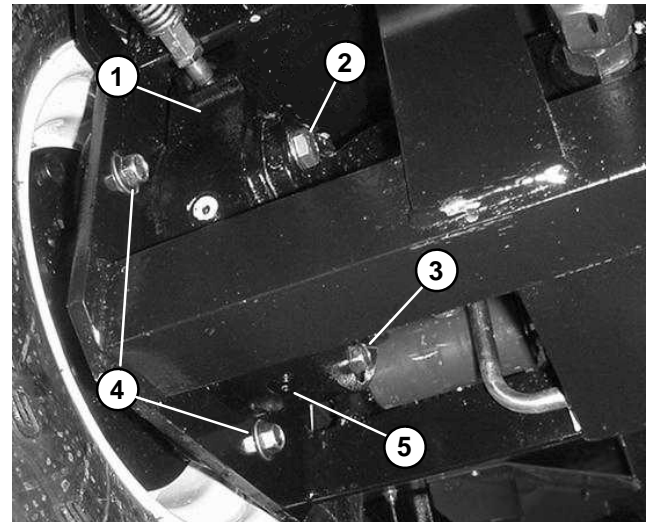

Figure 6
7. Make sure drain plug is installed in bottom of brake assembly (Fig. 6). Fill planetary wheel drive/brake assembly with SAE 85W–140 gear lube (see Operator's Manual). Capacity is approximately 16 oz. (.47 l) per wheel.